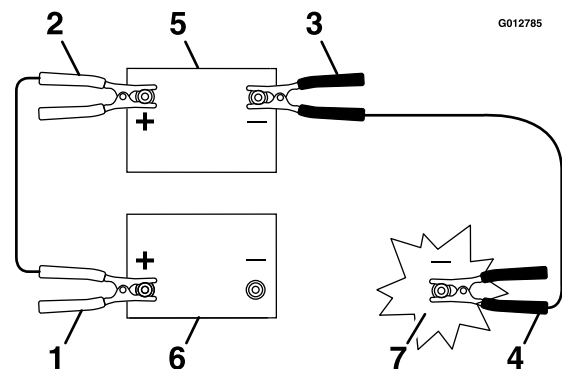

Figure 49
1. Connect the positive jumper cable—red (+) to the positive-battery terminal of the discharged battery as shown in Figure 49.
2. Connect the other end of the positive cable to the positive-battery terminal of the booster battery (Figure 49).
4. At the machine with a discharged battery, connect the other end of the negative jumper cable to the engine block, at a location away from the battery and belts (Figure 49).
2. Remove the negative cable from the engine block (Figure 49).
3. Remove the negative cable from the discharged battery (Figure 49).
4. Remove the positive cable from the booster battery (Figure 49)
5. Remove the positive cable from the discharged battery (Figure 49)